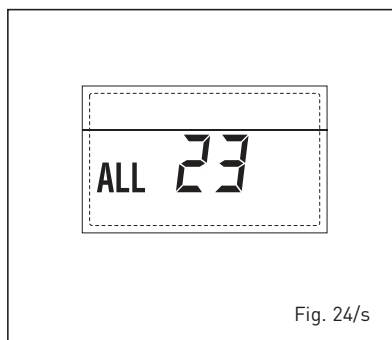

Fig. 24/s
– **ANOMALIA GUASTO SONDA COLLETTORE SOLARE S1 "ALL 24" (fig. 24/t)**